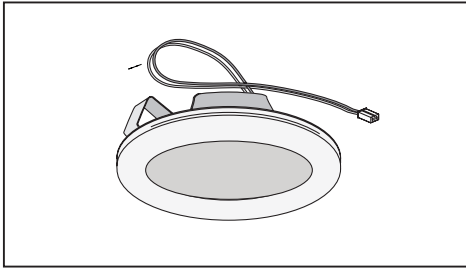

Fig.4
• **The active carbon filters (Fig.4)** are used to purify the air that is sent back into the room and its function